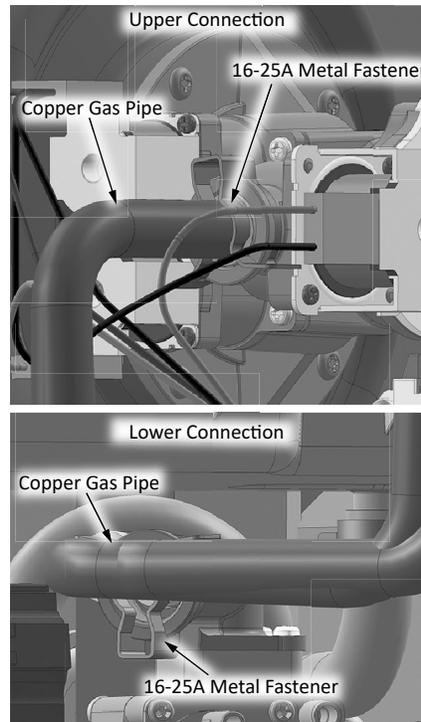

Figure 29: Gas pipe connection.
- 5 Remove the 16-25A metal fasteners on both ends of the copper gas pipe (# 104) and set them aside for re-installation. See Figure 29.
- 7 Install the new copper gas piping. Inspect the o-rings, if any cuts or nicks are present replace them immediately. Reference Figure 29 for correct part placement and orientation.
- 8 Re-install the 16-25A metal fasteners on both ends of the copper gas pipe (# 104). See Figure 29.